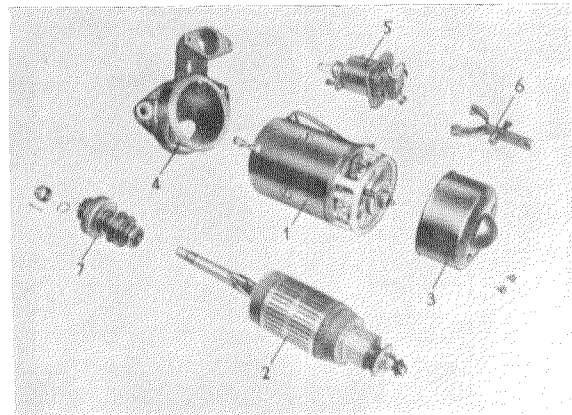

Fig. 15 — 4/1
2. Remove end cap (3) after unscrewing the two fixing screws (Fig. 15 — 4/1).
5. Remove the cable running from the field winding to the solenoid switch (5) by unscrewing the hexagon nut on the solenoid switch (Fig. 15 — 4/1).
6. After unscrewing the two hexagon screws, remove the solenoid switch (5) from the drive bearing (4) (Fig. 15 — 4/1).
7. Unscrew the hexagon nut together with lock washer from the pivot pin of the engaging lever (6) and knock out the pivot pin with a suitable drift.
8. Unscrew the two hexagon nuts with lock washer from the threaded bolts at the armature housing and take the drive bearing (4) off the armature housing.
The smallest permissible diameter of the collector is 33.5 mm. After turning-off, the segments must be sawn out 0.6–0.7 mm deep with a collector saw (e.g. Bosch EFAW 10). The segments can also be sawn out with a special tool (see Job No. 15—13, Fig. 15—13/1). After this, the collector must once more be turned-off with a stock reduction of 0.1 mm. Do not use the same turning tool for rough-turning and finish-turning and only use carbide-tipped tools (Widia). The maximum permissible run-out for the collector is 0.03 mm.